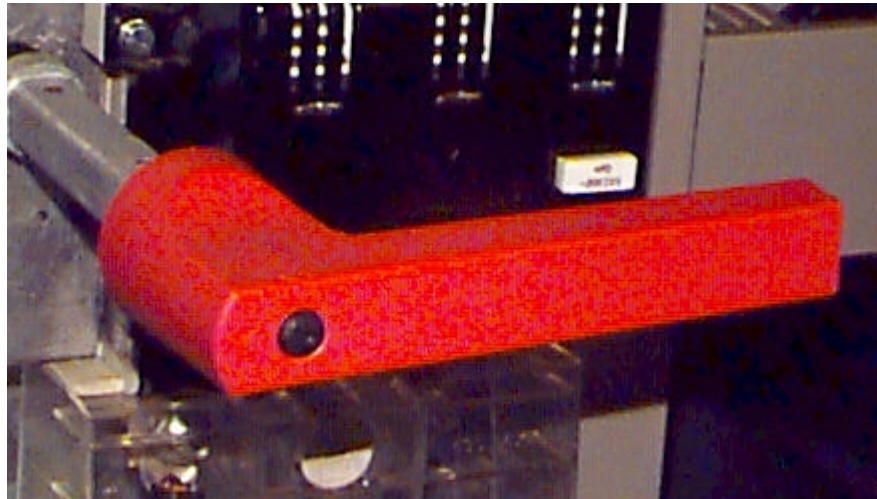

FIGURE 4 – Off Position Shown
- IV. Open cabinet door #1. The master switch (big red handle) must be in the “on” position (vertical). Turn the handle counter-clockwise to the “off” position (horizontal), as shown in figure 4. Wait at least 5 minutes to allow the power supplies and amplifiers to drain their stored energy. Go to step V.